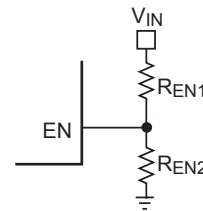

Figure 2—Enable Divider Circuit
2) Enabled by Vin through voltage divider. Connect EN with VIN through a resistive voltage divider for automatic startup as the figure 2 shows.